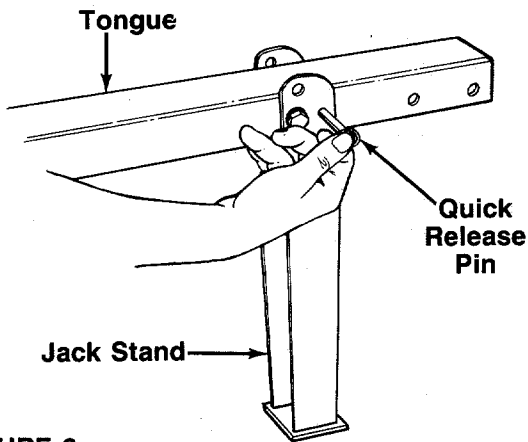

FIGURE 2.
- ← 1. The tongue is shipped with the jack stand already attached to the tongue. The jack stand is in the transport position. Remove the quick release pin. Pivot the jack stand to the operating position (90°), and secure with the quick release pin. See figure 2.